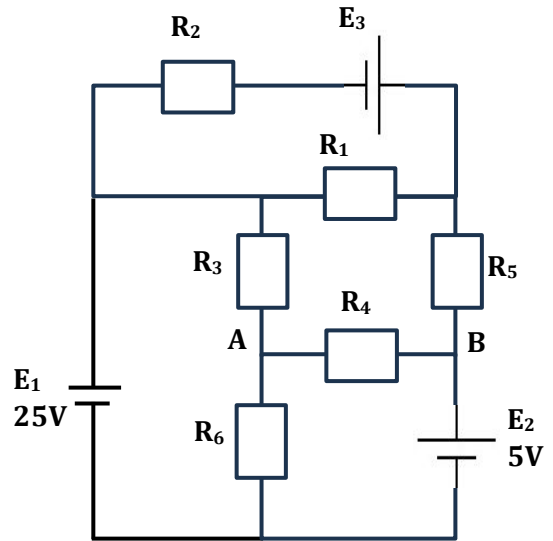

Figure 5.4
Consider the schematic diagram presented in Figure 5.4.
2. Assemble the circuit illustrated in Figure 5.4.